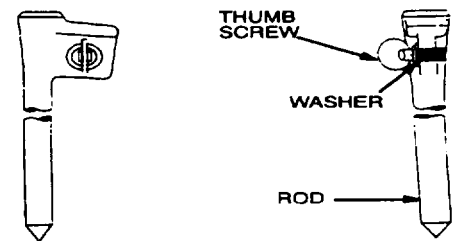

Figure G-1.
*a. Moist Soil Conditions.* In moist soil, use either the 8-foot ground rod NSN 5975-00-296-5324 or the 6-foot ground rod NSN 5975-00-224-5260. Both are single-section rods with a built-in driving head and a thumbscrew coupling for connecting a ground strap, as shown in figure G-1.